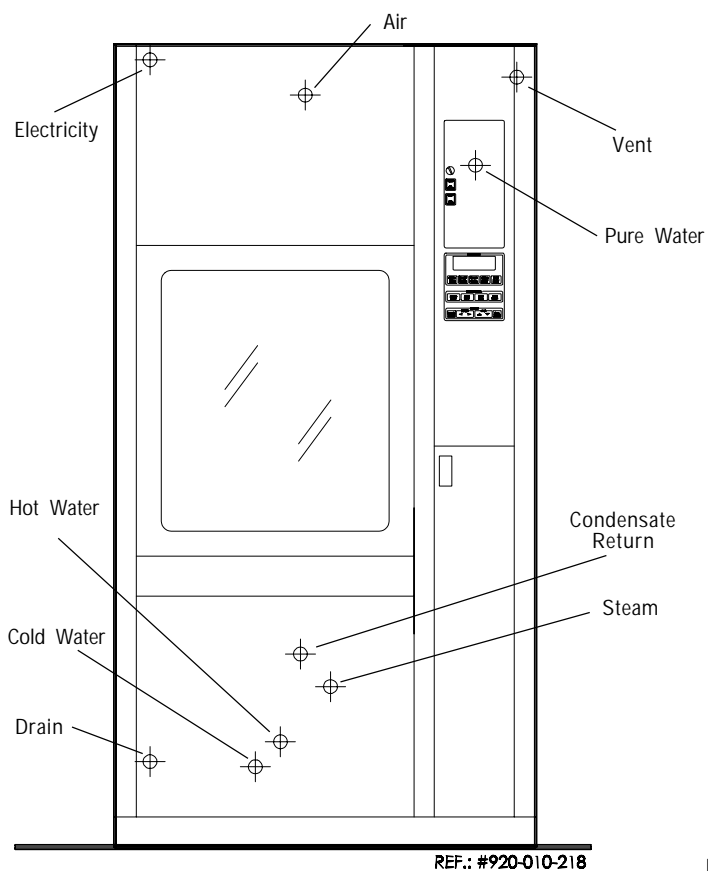

Figure 3-1. Utility Connections
6. Connect the following building supply lines to the unit (see Figure 3-1).